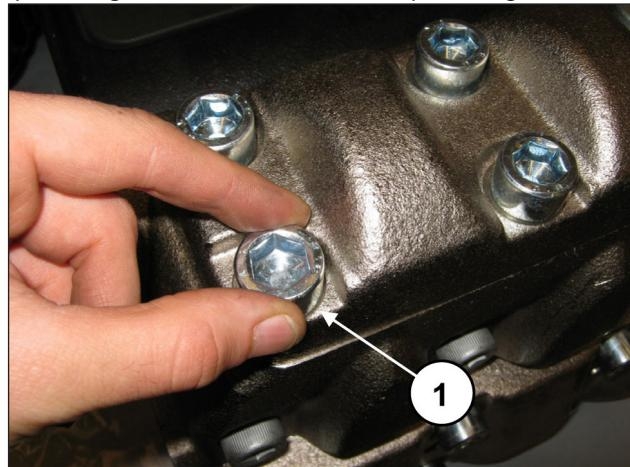
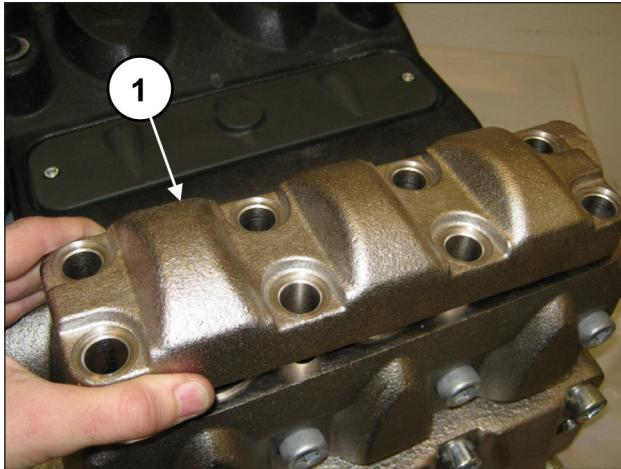

Fig. 135
Fig. 136
Unscrew the 8 M16x45 screws of the outlet valve cover (pos. ①, Fig. 135) and remove the cover (pos. ①, Fig. 136).